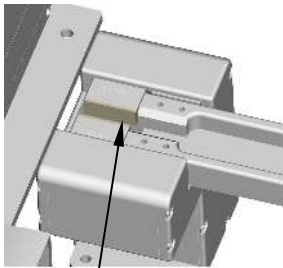
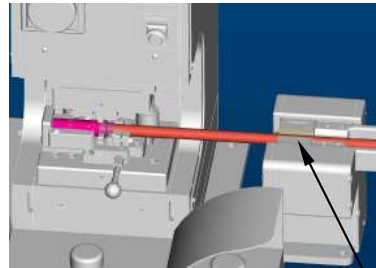

Fig. 7
Fig. 8
5. Open the cable clamp by operating the foot valve (see Fig. 7). Place the prepared cable in the cable clamp. The cable clamp is closed when the foot valve is released (see Fig. 8).